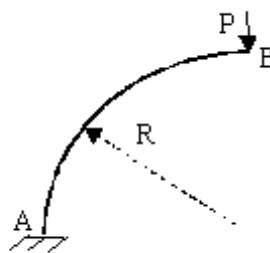

Figure 13:
- (b) Calculate tip displacements of a quarter circular bar AB of radius R when a load P is applied at its free end, as shown in Figure 13 below. [6+10]